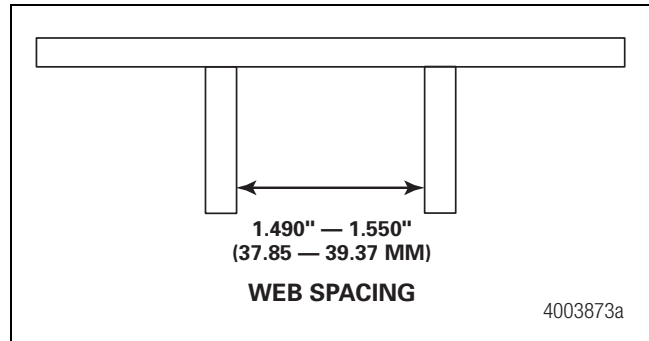

Figure 3.7
9. Measure the distance between the webs on the brake shoes at both ends. The web spacing should be 1.490-1.550-inches (37.85-39.37 mm) measured 1.0-inch (25.4 mm) from the edge of the slots. Replace the shoe if the web spacing is not within specification. Figure 3.7.